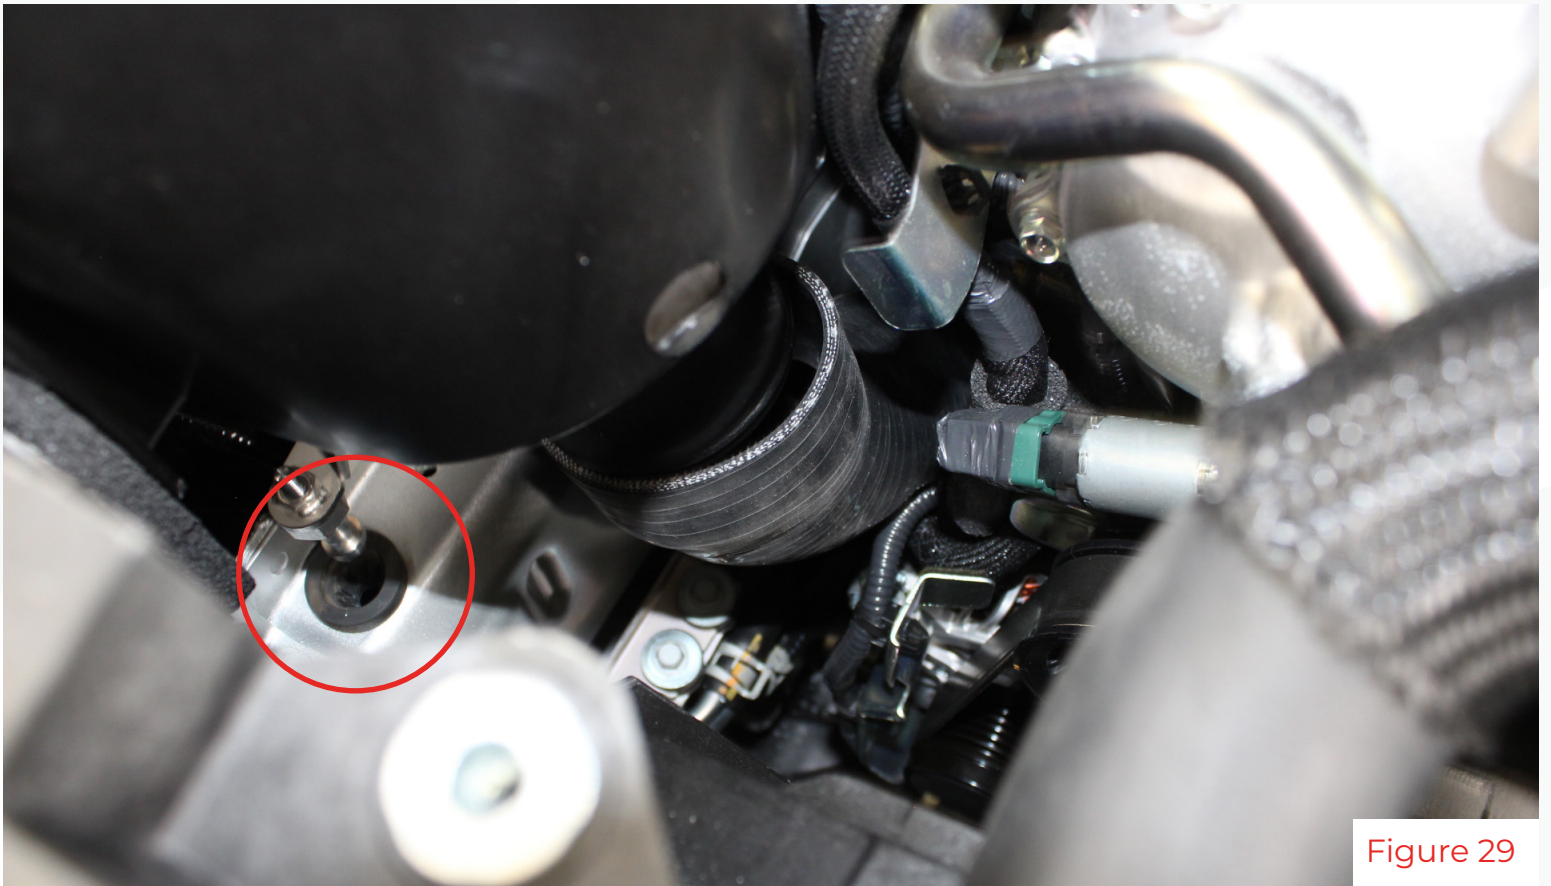

Figure 29
15. Position the passenger airbox over the silicone and align the stanchion over the grommet. Clock the silicone until the airbox and silicone are properly aligned. Tighten the clamp on the turbo inlet (fig 29).